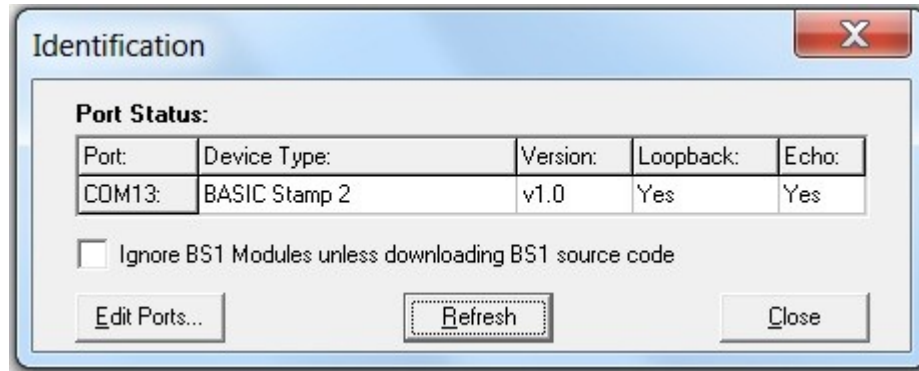

Figure 1. Basic Stamp identification by the editor software
3.2 Run the Basic Stamp Windows Editor software on your PC. The software is free and can be downloaded from the [www.parallax.com](http://www.parallax.com) website. In the program under Run menu, click Identify or just press F6 key on your keyboard. If the connection is correct the software should identify the Basic Stamp device and its version as shown in figure 1. In case the device is not identified check your power supply or follow instructions on trouble shooting the connection on the Parallax company website.